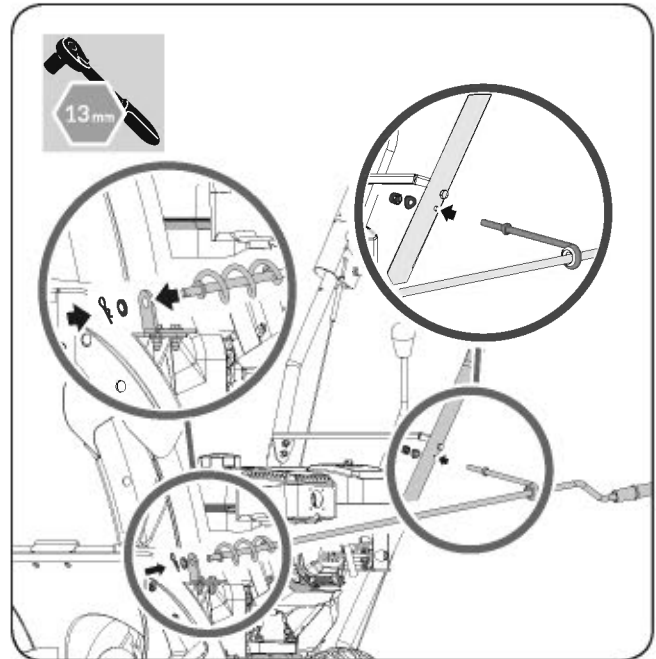

Figure 9a
- Secure the spiral end on the chute bracket by sliding on the flat washer and clevis pin. (See **Figure 9a**)